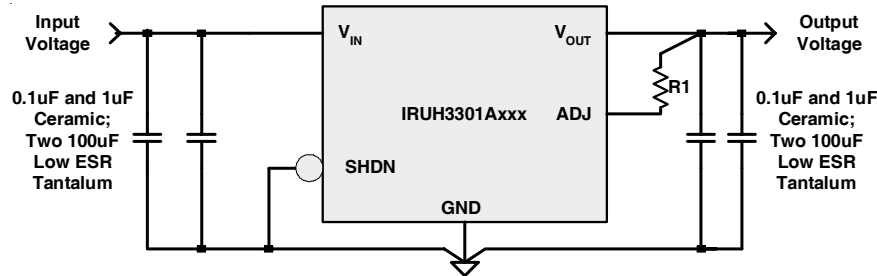

Fig. 1. Typical Regulator Circuit; Note the SHDN Pin is hardwired in the “ON” position.
- ① Connected as shown in Fig.1 and measured at the junction of V_{OUT} and ADJ Pins.
- ② Under normal closed-loop operation. Guaranteed by design. Not tested in production.